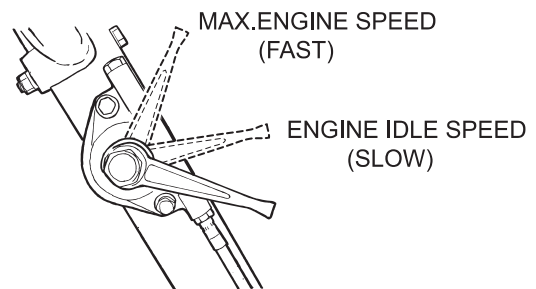

Figure 14. Engine Throttle Lever
4. Place the **throttle lever** (Figure 14), located near the hydraulic pump, halfway between **fast** and **slow**.
1. Place the **throttle lever** (Figure 14) in **slow** position, and listen for the engine speed to decrease.